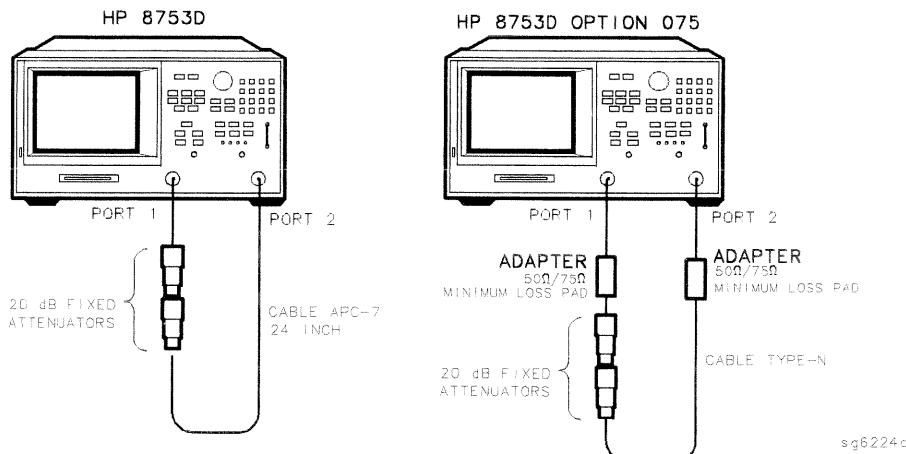

Figure 2-49. Test Port Output Harmonics Test Setup
4. Connect the equipment as shown in Figure 2-49.